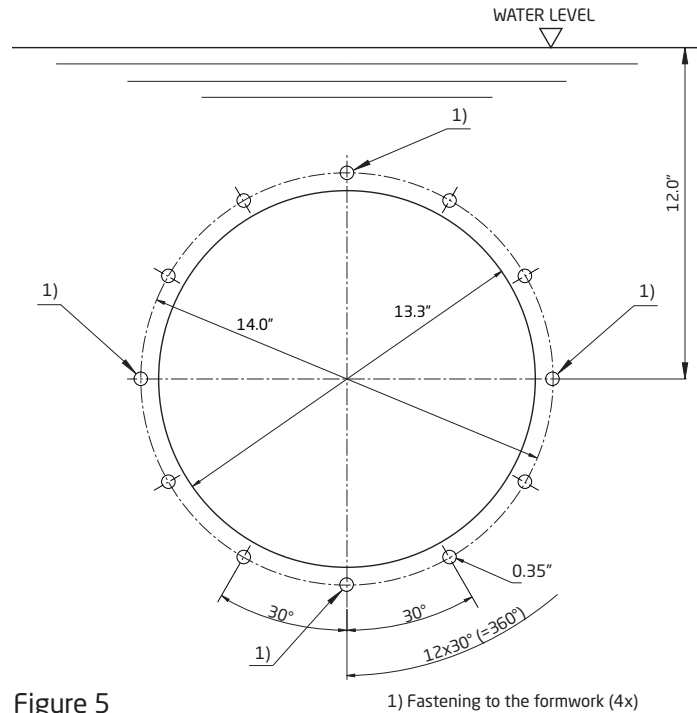
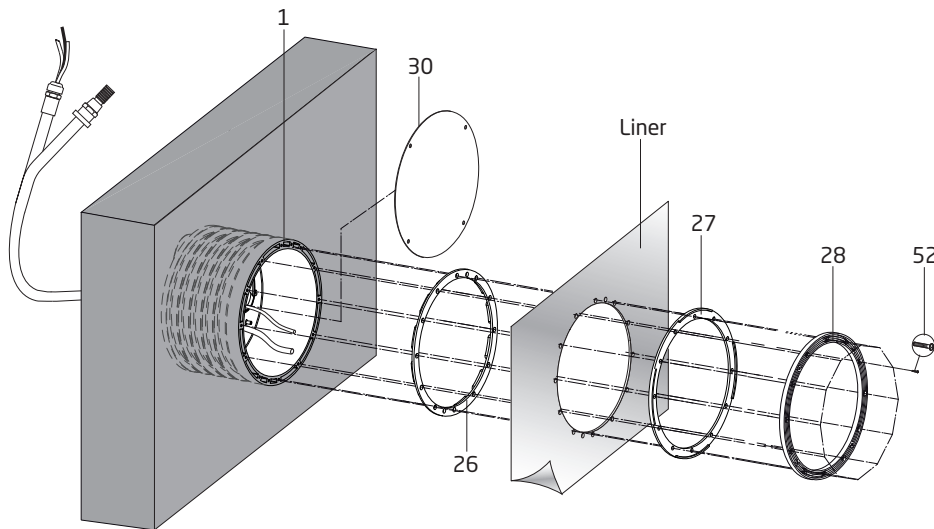

Figure 5
Figure 7
- Create formwork for the jet housing using Figures 5 & 6.
- Drill the four M8 holes marked (1) in Figure 5 in the formwork for the inner pool wall. Cut a 14.5" hole in the formwork for the outer pool wall. **CAUTION:** The center of the jet housing **MUST BE** mounted 12" **BELOW** the water line as shown in Figures 5 & 6
- Place the gunitite cover (part# 30) on the front of the jet housing. The four (4) holes in the gunitite cover should line up with the holes marked (1) in Figure 5. Tape the edge of the gunitite around the entire jet housing to keep concrete out of threaded inserts and out of the jet housing.
- Place the inner wall formwork on the front of the jet housing, lining up the pre-drilled holes with the holes in the gunitite cover/jet housing. Secure the formwork to the jet housing with four (4) M8 x30 screws (part# 52).
Use the provided mounting template (small scale version of template shown in Figure 5) to mark and drill the holes through the liner (twelve (12) M8 clamping ring screw holes and 13.3" center hole). Insert the gasket with knobs in the front of the jet housing (part# 26). Install the liner with the holes aligned to the jet housing. Align clamping ring (part# 28) and place the clamping ring gasket (part# 27) and install using the twelve (12) M8 x 30 clamping ring screws (part# 52). (See Figure 7)
5. Place gunite cover on the front of the jet housing. The four holes should be lined up with the holes marked (1) in Figure 5. Tape the edge of the gunite cover around the entire jet housing to keep gunite out of threaded inserts and out of the jet housing. Next place plywood on the front of the jet housing and secure to four (4) M8 x 30 screws (part #52). The discharge connection should be located directly **ABOVE** the suction connection.
6. Now place this assembly into position in the pool wall and align the water line marks. With a level on the two (2) horizontal studs, level the assembly and mark the eight (8) holes for the 1/4" lag shield anchors. Remove assembly and drill holes for lag anchors. Install lag shield anchors. Reposition the assembly and secure it to the lag shield anchors with 1/4" lag screws. It is best to check with a level before tightening the lags down. Back fill and form the outside of pool wall.
Use the template in Figure 5 to mark and drill the holes through the liner (twelve (12) M8 holes and center 14" hole). Insert the gasket with knobs (part# 26) in the front of the jet housing. Install the liner with the holes aligned with the jet housing. Install the clamping ring (part# 28) and clamping ring gasket (part# 27) using the twelve (12) M8 x 30 clamping ring screws. (See Figure 7)